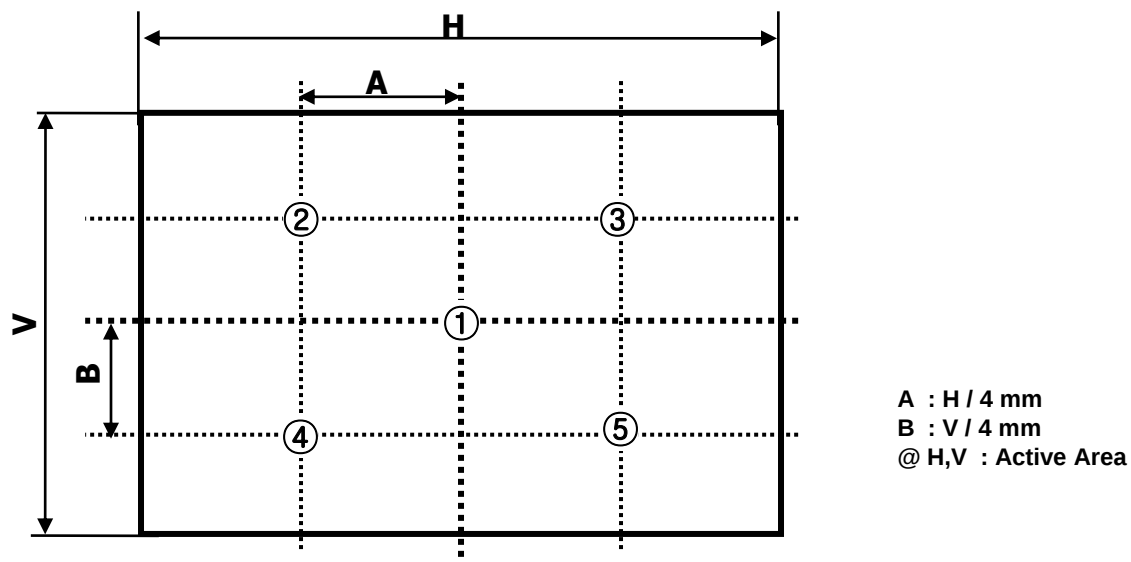

FIG. 2 5 Points for Contrast Ratio
n = the Position number(1, 2, 3, 4, 5). For more information, see FIG 2.
- (1) Temperature : 5 ~ 40 °C
- (2) Humidity : 35 ~ 75 %RH
- (3) Period : 6 months
- (4) Control of ventilation and temperature is necessary.
- (5) Please make sure to protect the product from strong light exposure, water or moisture. Be careful for condensation.
- (6) Please keep the modules at a circumstance shown below Fig. 2